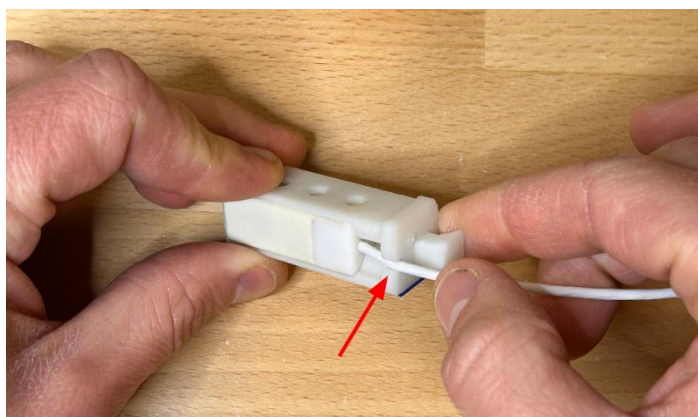

FIGURE 17 - SEAT CABLE
4. After torquing the set screw, seat the cable in the cable catch. (Figure 17) Proceed to install a new neoprene tip on the OPM. When preparing to remove an OPM from the housing it is necessary to peel off and discard the neoprene tip.